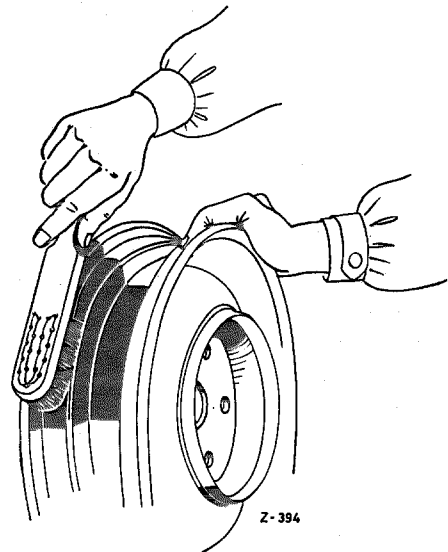

Fig. 40 — 1/1
1. Clean the wheels with the aid of a wire brush (Fig. 40 — 1/1). The shoulder of the rim, the wheel flange and the valve hole must be completely free of dirt and rust.
3. Smear the rubber valve (snap-in valve) with a soap solution and use a special tool or a valve puller chain to force the valve into the rim from the inside (Fig. 40 — 1/2).